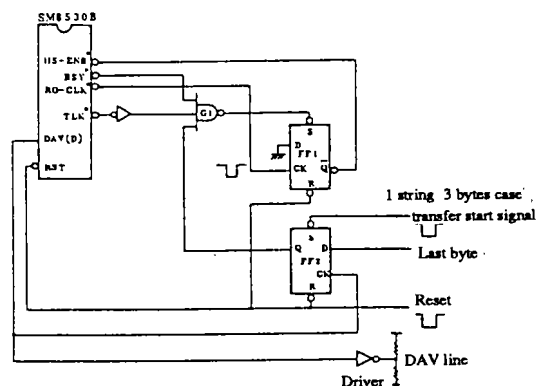

Figure 3 Talker circuit example (I)
- (1) When IFC is input
- (2) When RST* is input
- (3) When specified as the listener by MLA
- (4) When the listen-only mode is specified by pins 34 and 35
- (5) When OTA is input
• Figures 3 to 6 show examples of the data transmission circuits and timing. Figures 3 and 4 show an example of sending the HS-ENB* signal byte by byte. Figures 5 and 6 show an example of sending several bytes in succession.
(2) In the case of the listener